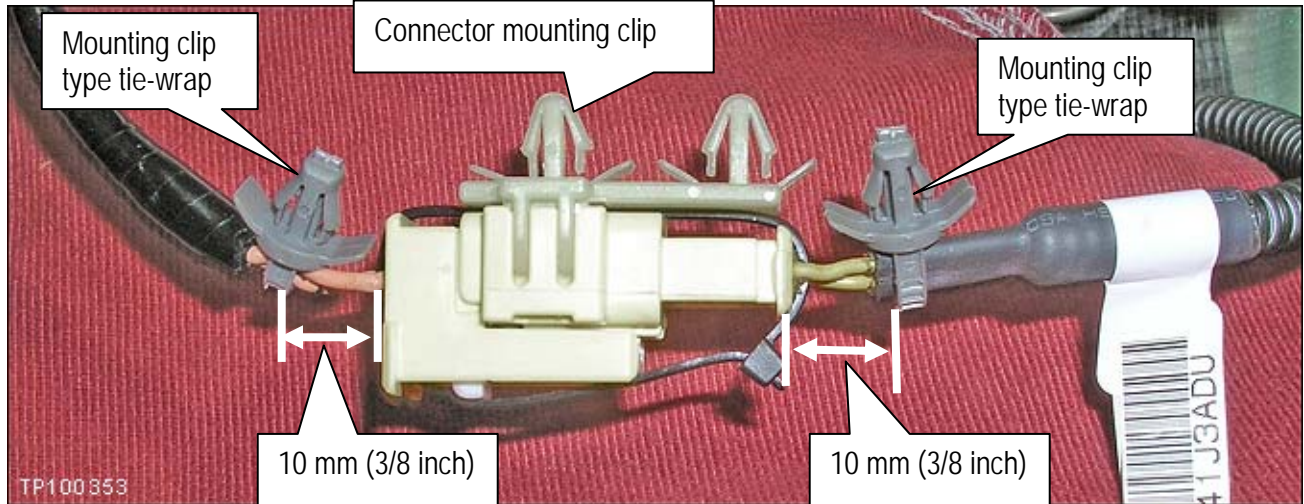

Figure 7c
9. Reinstall the connector mounting clip (see Figure 7c).
10. Install 2 "mounting clip type" tie-wraps as shown in Figure 7c.